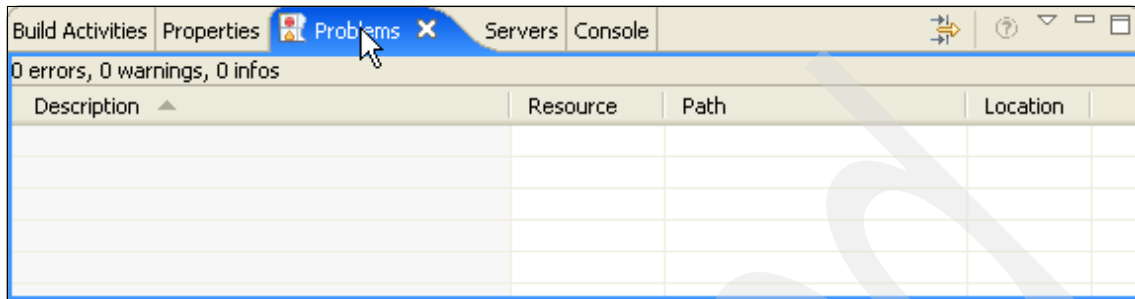

Figure 3-14 Problems view
4. Click the **Problems** view and verify that there are no errors, warnings or informational messages as shown in Figure 3-14.